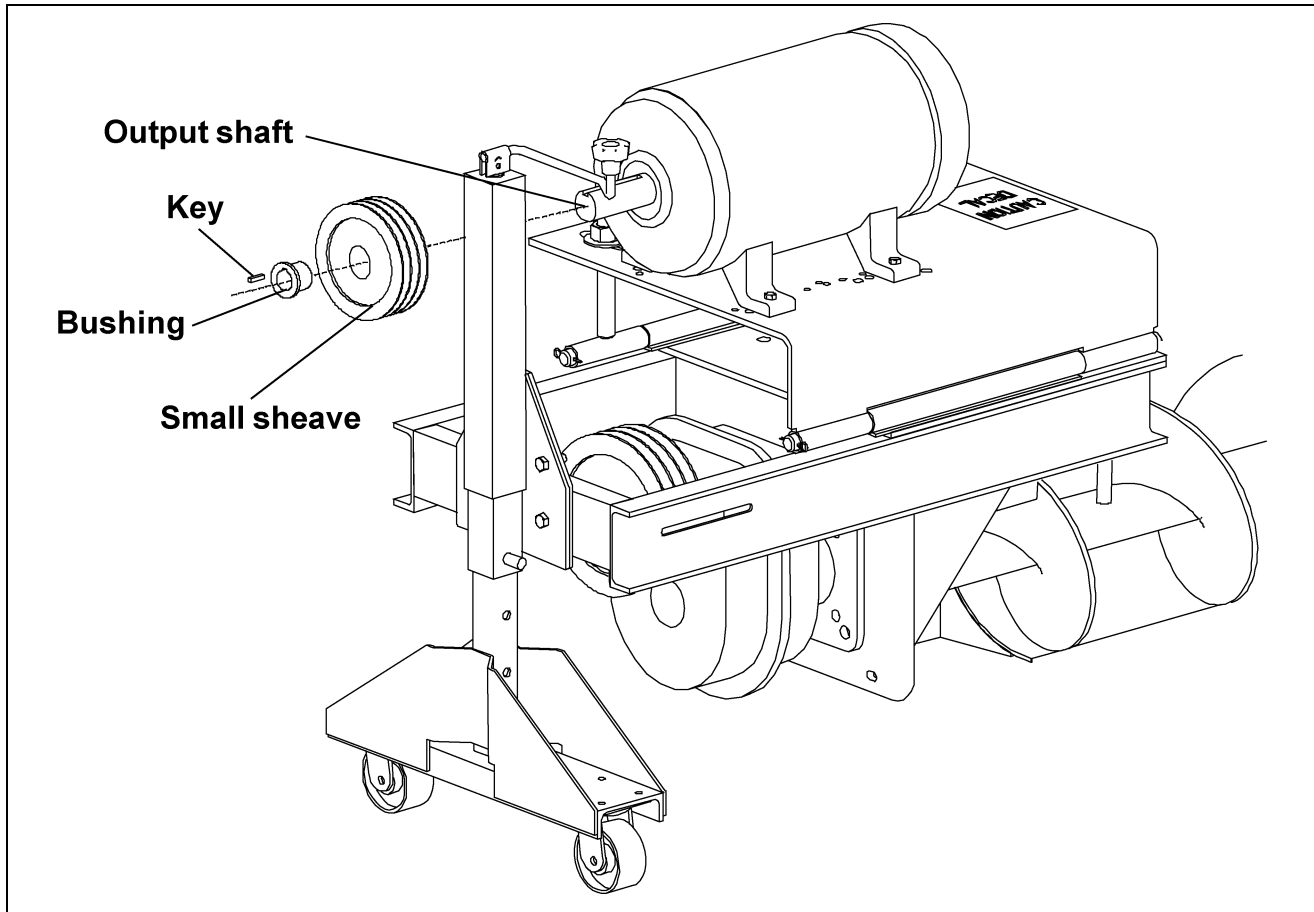

Figure 5AG
E. Align the sheaves with a straight edge to assure proper alignment and tighten the screws on the bushings. (See Figure 5AG.)